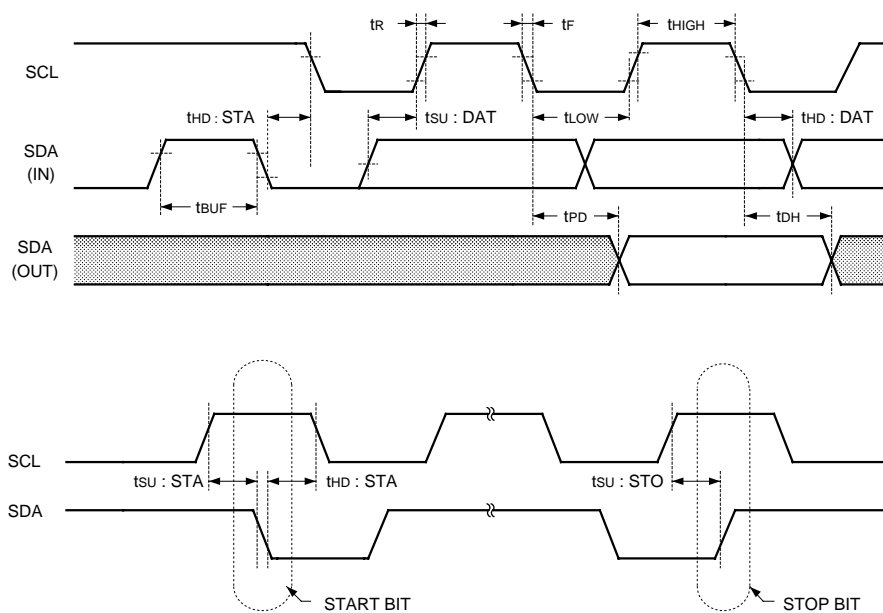

Fig.4 SYNCHRONOUS DATA TIMING
- The device continuously monitors the SDA and SCL lines for the start condition and will not respond to any command until this condition has been met. (See Fig.4 SYNCHRONOUS DATA TIMING)
- All communications must be terminated by a stop condition, which is a LOW to HIGH transition of SDA when SCL is HIGH. (See Fig.4 SYNCHRONOUS DATA TIMING)